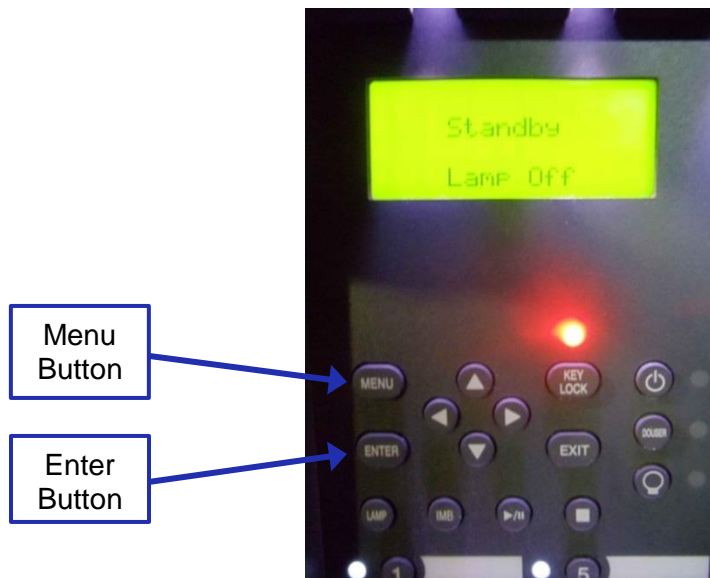

Figure 40: Projector Menu
- To arm the service door, push and hold the Menu button on the projector (Figure 40).
- Enter the appropriate password and click Enter on the projector. Contact your administrator for the password (Figure 40).